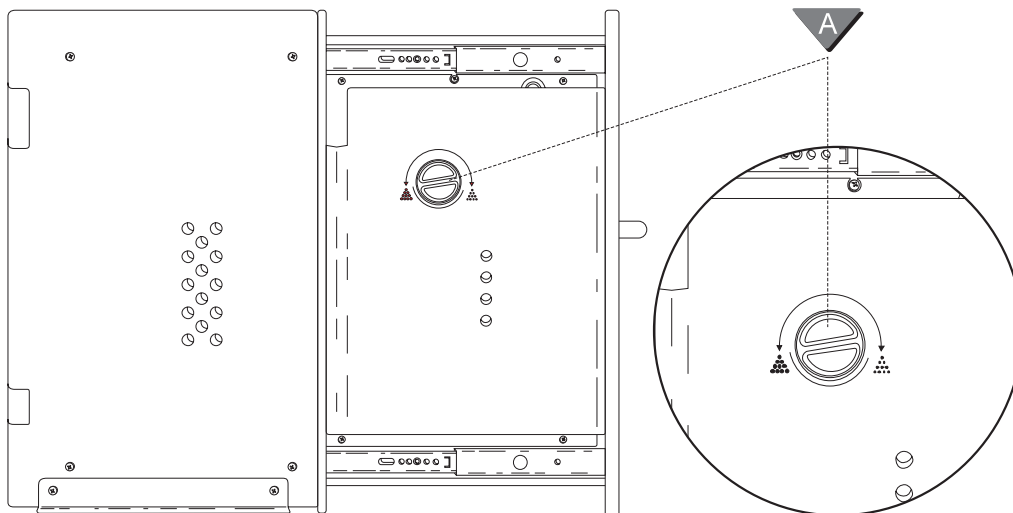

Fig. 5
- Turn knob **A** on the left of the machine (Fig. 5) carefully and slowly.